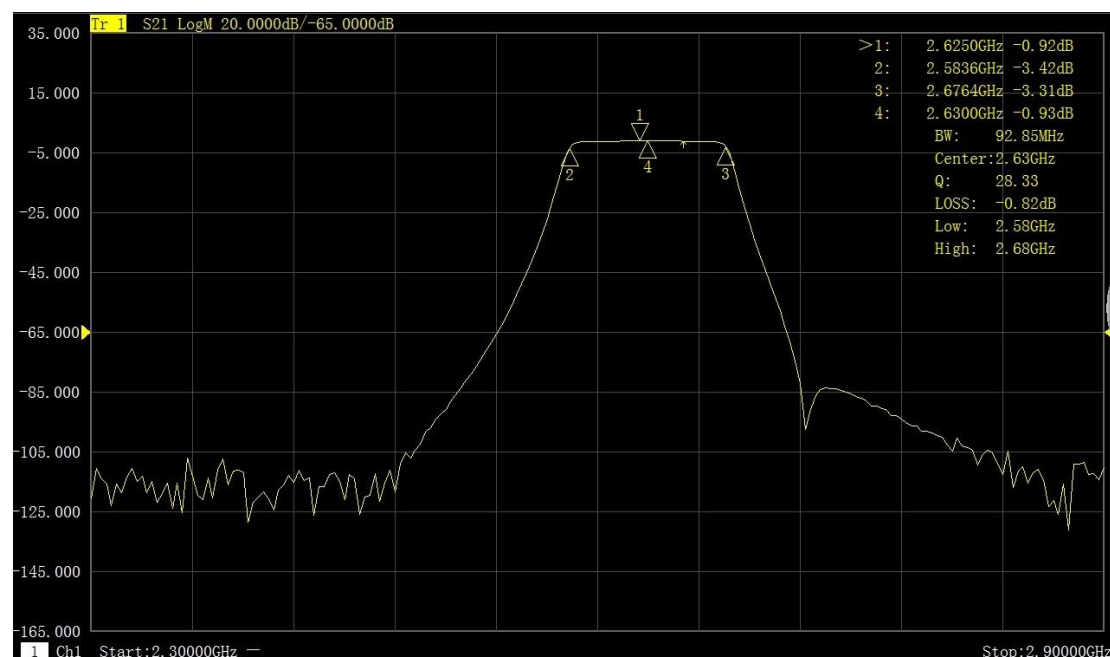

Fig.3.46 Bandwidth Search
- ① Check **[Discrete Cursor]** checkbox in the **Advanced Cursor** dialog box, and move the cursor to the discrete data point equivalent to the target value.
- ② Check **[Discrete Cursor]** checkbox in the **Advanced Cursor** dialog box, and move the cursor to the interpolated data point equivalent to the target value.
- **Bandwidth** When **bandwidth** search function is selected, set the level (-3dB by default) drop from the peak on both sides in the **level** box, and measure the bandwidth at this level, as shown in Fig. 3.46. Use cursors 1-4 for measurement. Use cursor 1 to search the maximum peak value, cursor 2 to search the defined level drop point on the left side of the peak value, cursor 3 to search
➤ **Filter test** The analyzer specially sets a shortcut function for the filter test, and the parameters obtained from the test can be automatically displayed on the screen, which is convenient for users to see the test results visually. The filter test function reduces the manual setting in the test process, thus greatly increasing the test speed, as shown in Fig. 3.46.